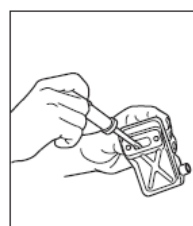

FIG. 17
1. Remove the muffler (Fig. 17), insert a screwdriver into the exhaust port and wipe away any carbon deposits. At the same time, wipe away any carbon build-up on the exhaust port of the muffler and the cylinder exhaust port.